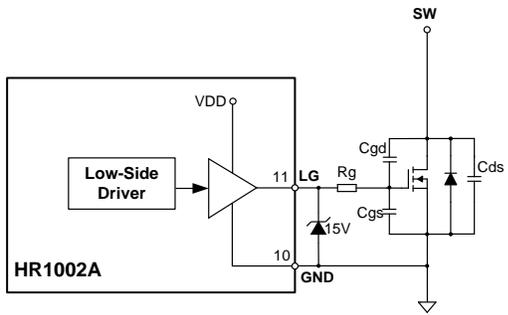

Figure 20: Low-Side Gate Driver
The low-side gate driver (LG) provides the gate driver signal for the external low-side MOSFET (S_1) (see Figure 1 on page 16). The maximum voltage on LG is 16V. Under certain conditions, a large voltage spike occurs on LG due to oscillations from the long gate driver wire, the MOSFET parasitic capacitance, or the small gate driver resistor. This voltage spike is dangerous for LG, so it is recommended to place a 15V Zener diode close to LG and GND (see Figure 20).